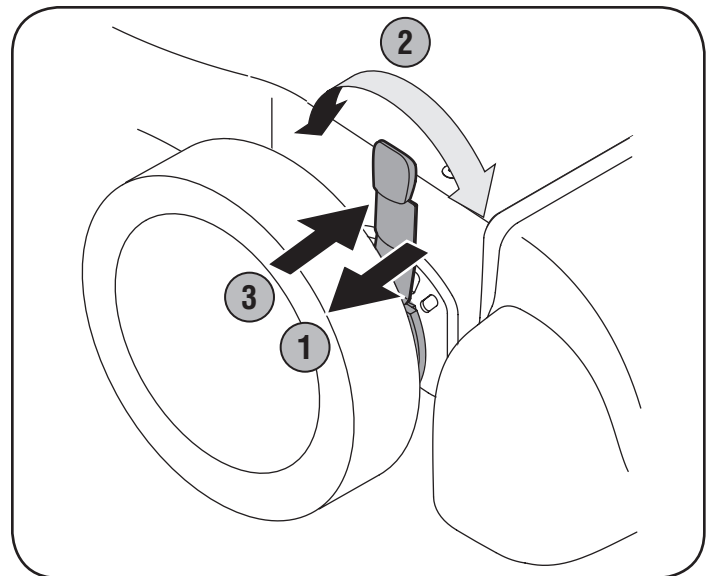

Figure 8
1. Depress nozzle height adjustment lever towards wheel. See Figure 8.